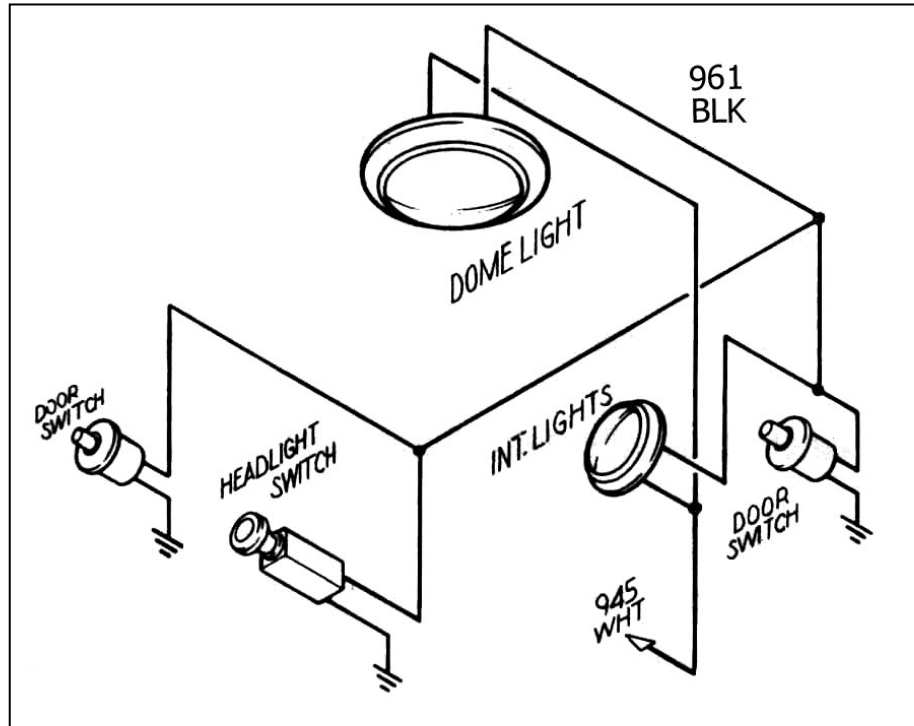

Figure 14.1 Interior Lighting (GM Style Jamb Switch – Painless Part #80170)
- 14.1 Interior Lights are switched through the door switches and the dash-mounted headlight switch, which is usually rotated counter-clockwise to turn on. The dome light return (#961blk), exits the Harness near the fuse panel, and must be connected to the door pin switches to operate. These switches apply ground to the circuit. YOU WILL NEED TO SUPPLY THESE GROUND WIRES. 12V is continually present at the light bulbs. See **Figure 14.1**